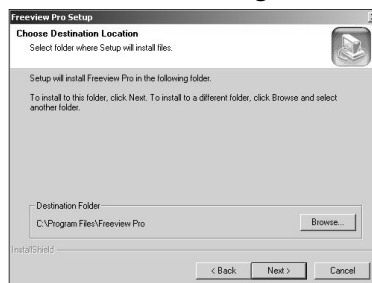

Fig. 2-10
Step 4: Click **“Browse”** to change the destination or **“Next”** to continue, as **Fig. 2-10**.